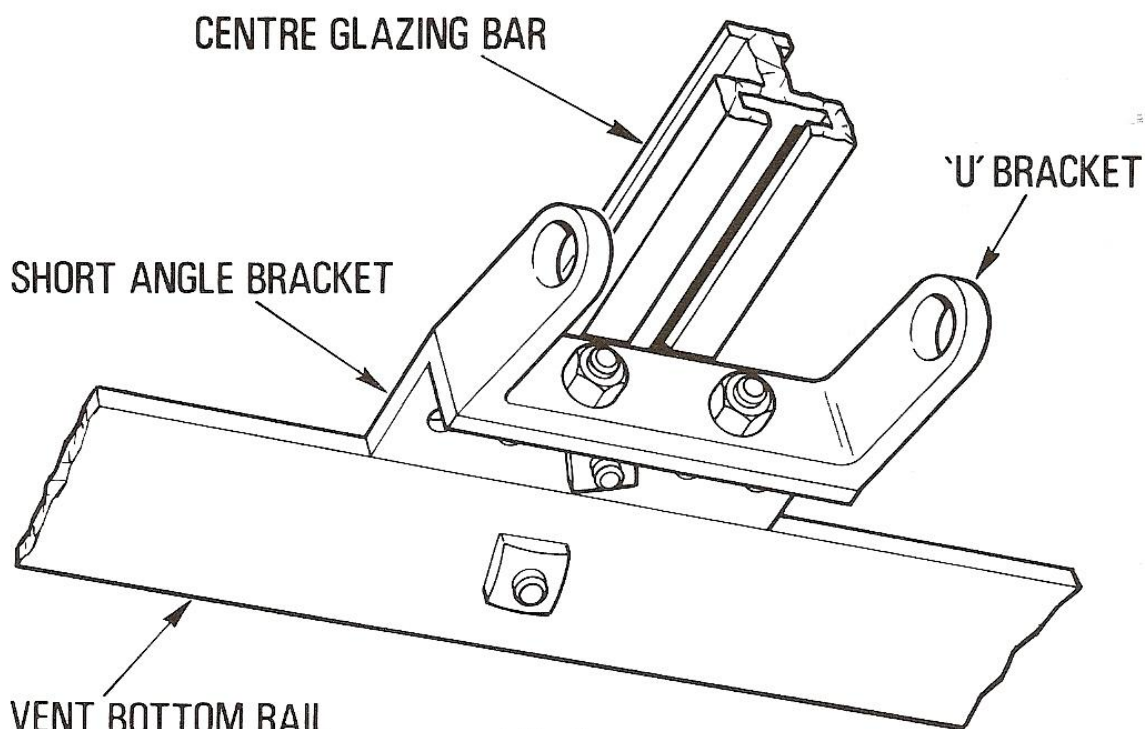

Fig.6
1. Remove the vent stay from the centre glazing bar but leave both screws in the slot. Save the nuts. Fasten the short angle bracket from the screw pack to the 'U' bracket using two of the round head screws and nuts from the screw pack. Fasten the short angle bracket to the centre glazing bar using the lower of the screws in the glazing bar slot. The edge of the short angle bracket should lie against the edge of the vent bottom rail. **See Fig 6.**